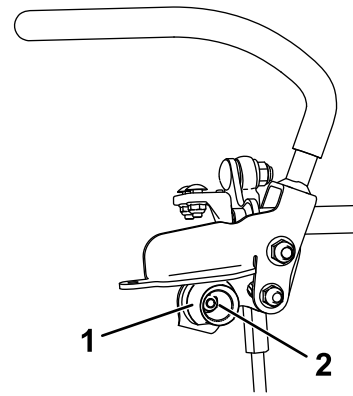

Figure 45
6. Loosen the nut holding the cam (Figure 45).